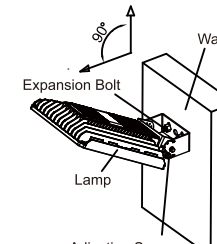

Figure7
- Step 4: Loosen the adjusting screws. Adjust the lamp's angle as per actual requirements and tighten the adjusting screws. (Figure 7)
- Tips: Available adjustable angle is 0-90°(Figure7)